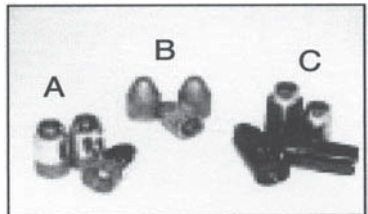

Figure 1
1. **POWERBELT™ BULLETS** - PowerBelt Bullets are conical projectiles with a plastic base. The base or "belt" provides a perfect gas seal, eliminating accuracy robbing blow-by. Like sabots, the PowerBelt Bullet's patented snap-on base creates a perfect gas seal, providing consistent pressures and unsurpassed accuracy. But unlike sabots, PowerBelt Bullets are easy to load and do not require cleaning after every shot. And they are full caliber sized, so you get the most knock down power possible out of a muzzleloader. PowerBelt Bullets are available in .45, .50, and .54 calibers, copper coated or pure lead, with hollow points or AeroTips, and in a variety of grain weights. They are the #1 selling muzzleloading bullet on the market and the only bullet recommend for CVA in-line rifles. (Figure 1-A)
2. **CONICAL BULLETS** such as the CVA Buckslayer Bullet and others of this type provide acceptable accuracy in all CVA firearms as well as increased knock down power desired by hunters. These projectiles are best suited for use in medium to fast twist rifling barrels which stabilize the bullet more rapidly. (Figure 1-B)
3. **SABOTED BULLETS** - Modern sabots from various manufacturers have been tested and provide acceptable accuracy in CVA firearms when complying with the sabot manufacturer's recommendations for usage. Caution: Do not use a sabot bullet weighing more than 300 grains. (Figure 1-C)